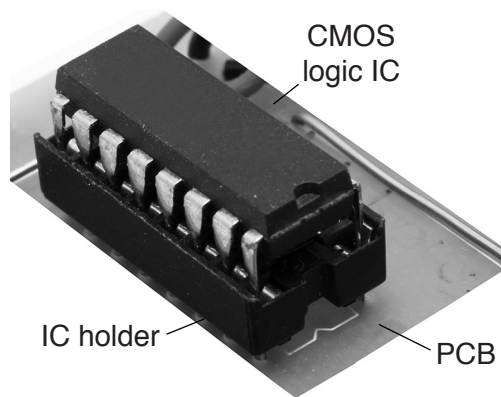

Fig. 21
- (ii) A dual in line CMOS logic IC is shown in Fig. 21.